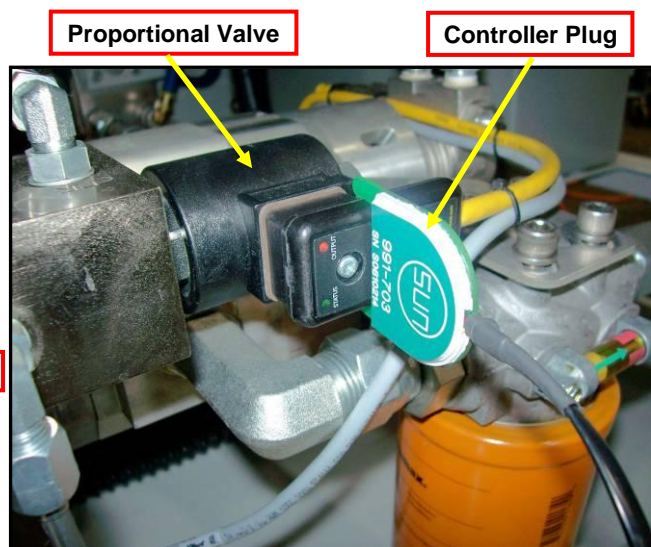

FIGURE 2
4. Plug the controller into that proportional valve as shown. Ensure the proper orientation of the plug. The plug has a label on it that must face the yellow cord. **See Figure 2.**